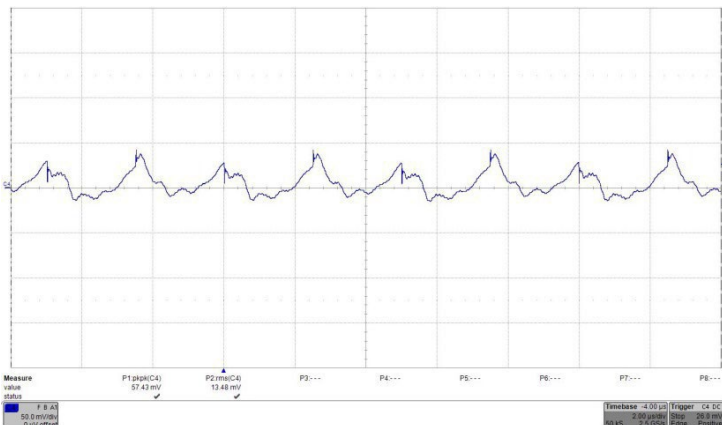

Figure 24: Output voltage ripple at full rated load current
a. Without input filter from Figure 24 ( $C_9 = 2 \times 470\mu\text{F}/50\text{V}/70\text{m}\Omega$ )
b. With input filter from Figure 24
c. Without input filter from Figure 24 ( $C_9 = 2 \times 470\mu\text{F}/50\text{V}/70\text{m}\Omega$ )
d. With input filter from Figure 24